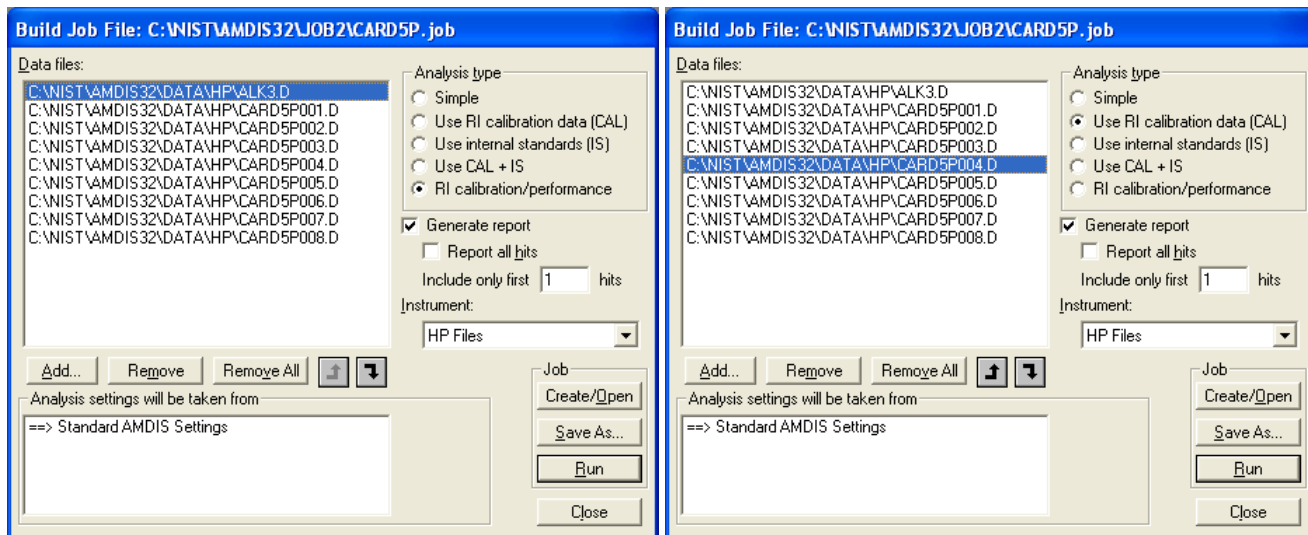

Figure 170 - Build Job File dialog
- Click the **Create/Open** button in the *Build Job File* dialog (Figure 170 - Build Job File dialog) to invoke the *Open* dialog.
- a) Click the **Create/Open** button in the *Build Job File* dialog (Figure 170 - Build Job File dialog) to invoke the *Open* dialog.
Having created a new Job file (9.1.1 Creating a New Job File), or opened an existing one (9.1.2 Modifying an Existing Job File), the basic editing process in the *Build Job File* dialog (Figure 170 - Build Job File dialog) is similar to the following:
To add a data file to the **Data files** list in the *Build Job File* dialog (Figure 170 - Build Job File dialog), click **Add**. The features of the invoked *Select Data File* dialog are almost identical to those of the **File | Open** command's dialog and are described in detail for it (3.1.1.1 File | Open). One difference is that this dialog permits multiple file selection (using standard *Windows* techniques). When you click **Open** to exit from the *Select Data File* dialog, all selected files are added to the end of the **Data files** list.
In the *Build Job File* dialog (Figure 170 - Build Job File dialog), select **Generate report** to activate this.
A Job file is run by clicking **Run** in the *Build Job File* dialog (Figure 170 - Build Job File dialog).